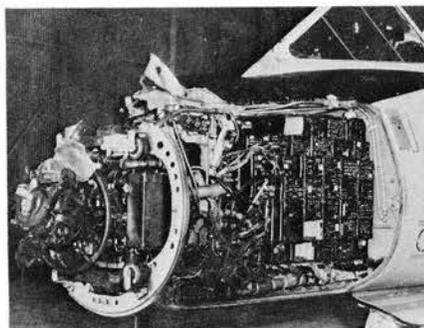

Figure 1.
**A** lightning protection kit is being installed in all F-106A and F-106B aircraft. The main purpose of this modification, which is being performed in accordance with USAF Safety TCTO 1F-106-1130, is to keep lightning currents and voltage surges from entering and disrupting the aircraft's electric power system when the F-106 pitot boom is struck by lightning. These surges are believed to have caused two accidents involving F-106's within the past five years, and the kit will minimize the possibility of recurrences. Figure 1 is an example of severe lightning strike that occurred several years ago.
Since radomes themselves are non-conductive, some sort of a "ground conductor" is usually provided in radomes to conduct lightning currents from the boom to the fuselage. In the F-106 this is a No. 12 AWG wire. Unfortunately, relatively little was known about aircraft lightning strikes at the time the F-106 was designed, so this ground conductor has insufficient cross-sectional area to conduct severe lightning currents without overheating. It has since been learned that very severe lightning currents can even vaporize and explode this size wire. Fortunately, strokes of this severity are rare, but a strike to the F-106 shown in Figure 1 several years ago did explode the ground wire inside its radome, destroying it and starting a fire in the forward equipment bay.